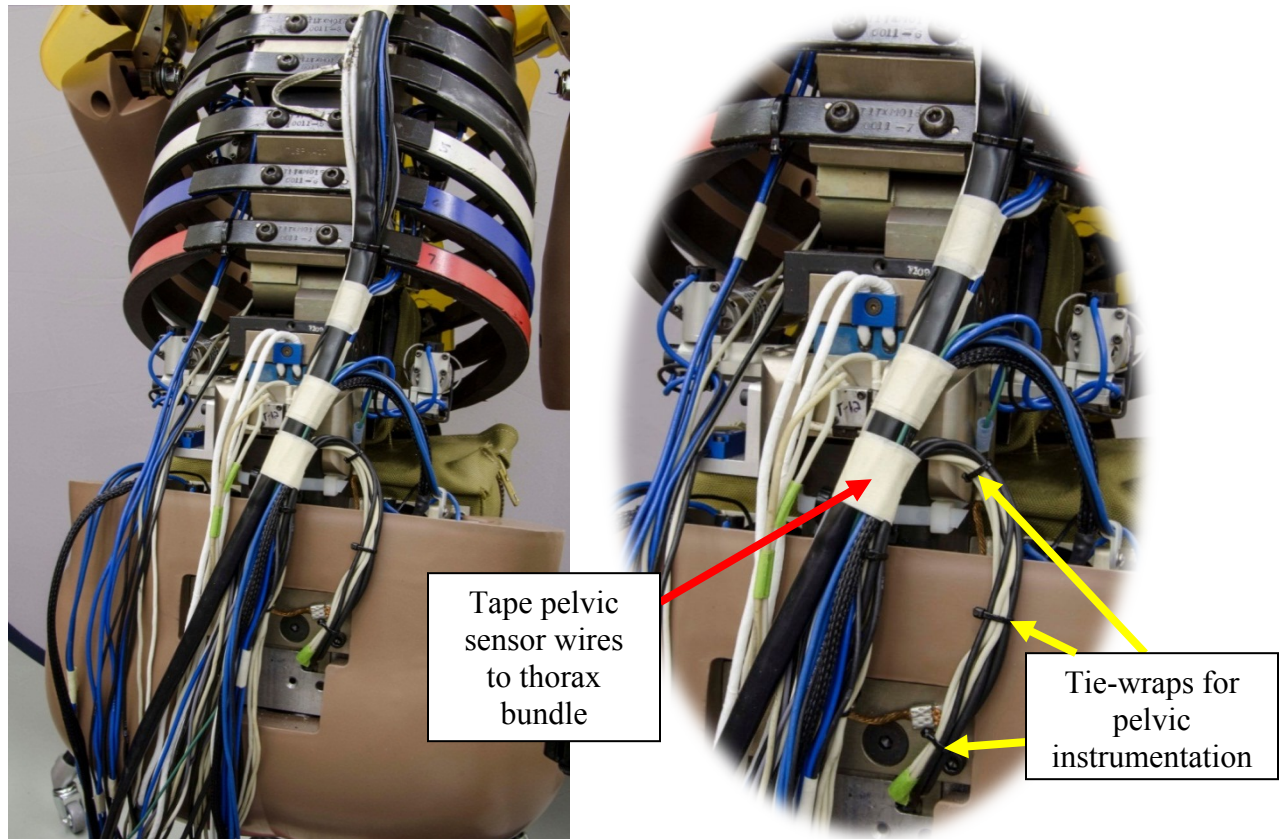

Figure 15-29. Tie-wrap pelvis accelerometer, ASIS, acetabulum, and pelvis tilt sensor cables together
15.4.3.2 Cable-tie the cables from the pelvis accelerometers, right ASIS load cell, right acetabulum load cell, and pelvis tilt sensor together on the right side of the dummy. Use masking tape to hold these wires to the cable bundle from the spine (Figure 15-29).